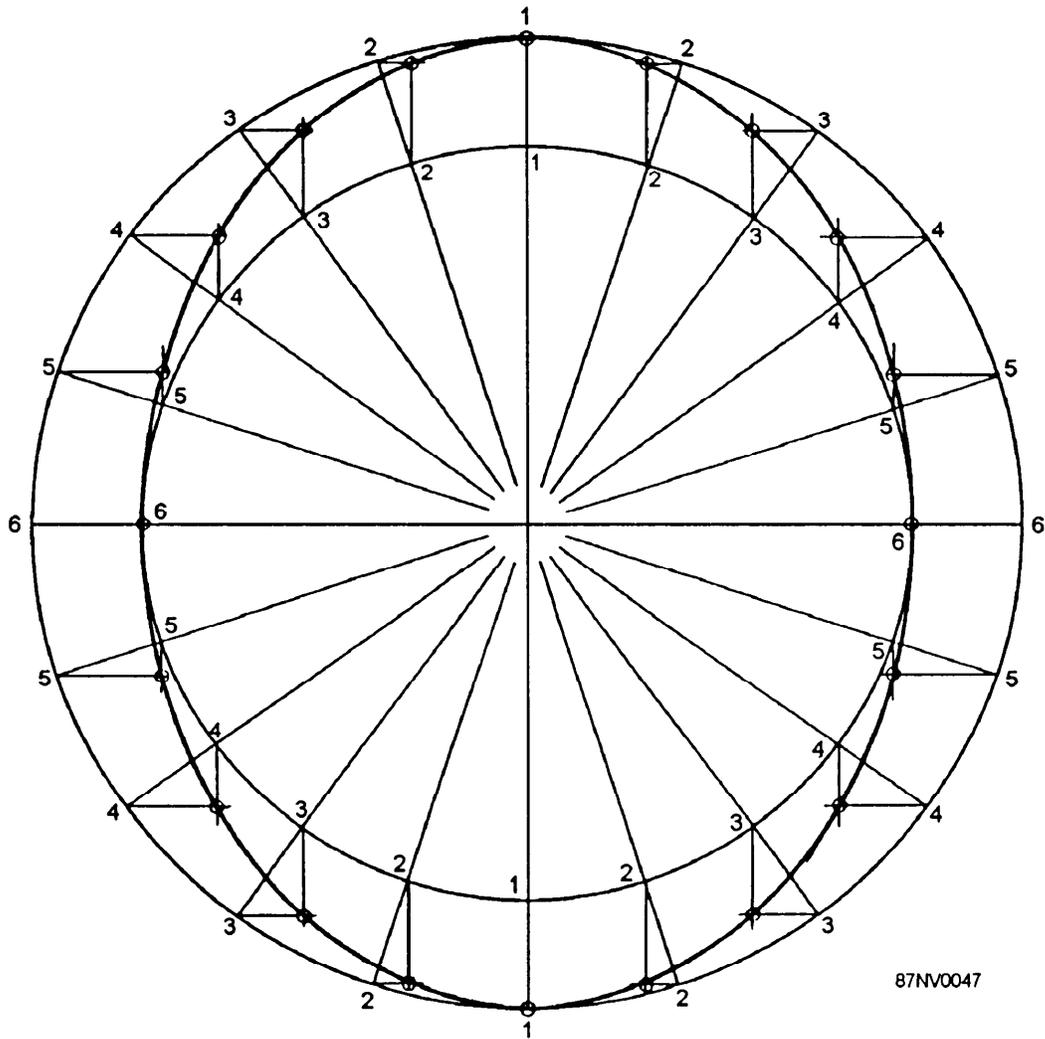

Figure 16-8.—Construction of an ellipse.
PROBLEM IV—Develop an ellipse with a vertical diameter of  $6 \frac{1}{4}$  inches and a horizontal diameter of  $4 \frac{7}{8}$  inches. (See fig. 16-8.)
4. Locate the equal-space division points on the outer circle circumference by radiating lines from the center point. These lines are to pass through the division points on the inner circle's circumference. Number these points as indicated in figure 16-8.